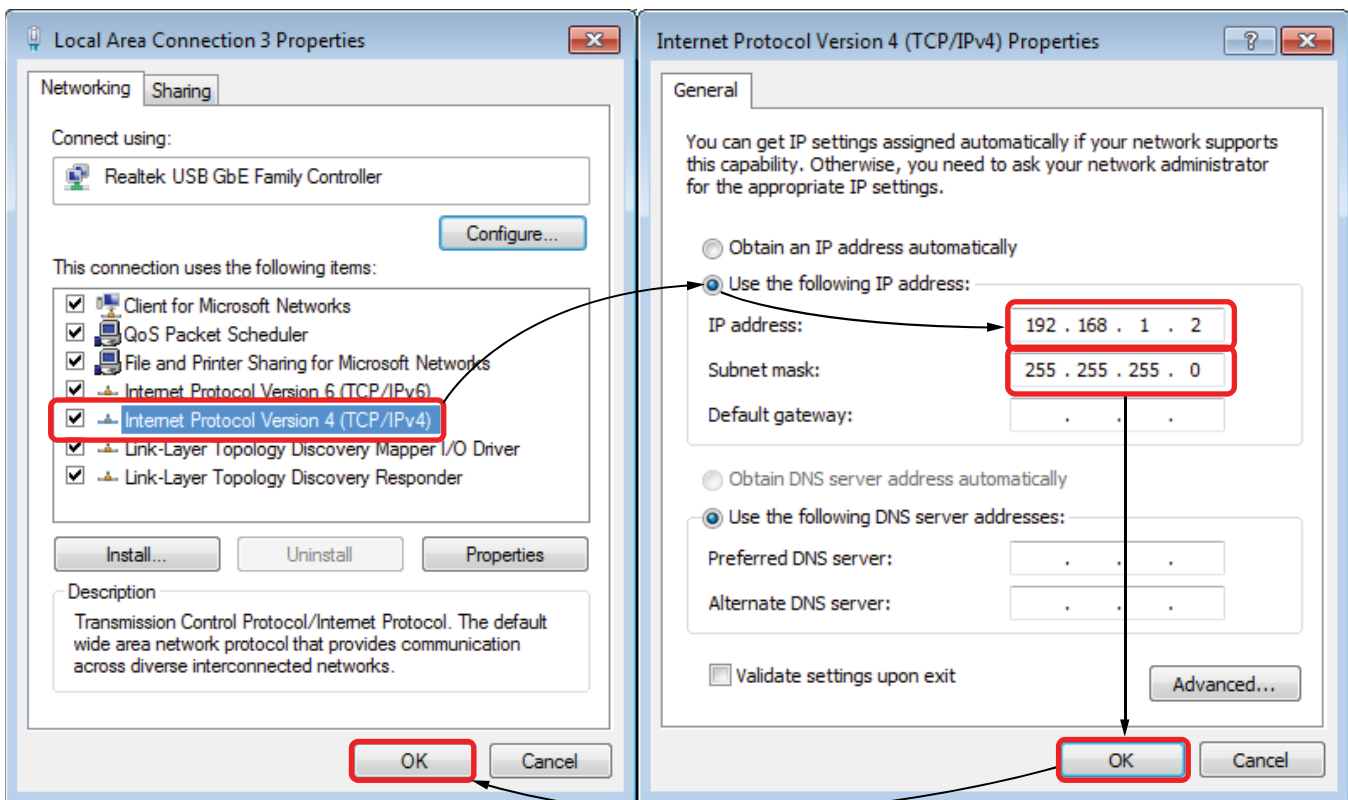

Figure 5. Internet Protocol (IP) Settings for Ethernet Device
5. A window appears, as shown in Figure 5. Double click **Internet Protocol Version 4 (TCP/IPv4)**.